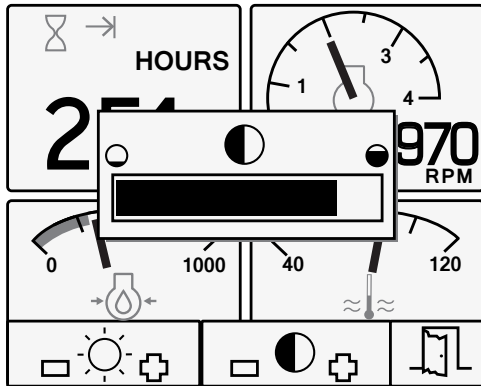

Figure 31. Backlight and Contrast
- When no button bar is displayed, press button 5 to access the backlight and contrast menu bar (Figure 31).